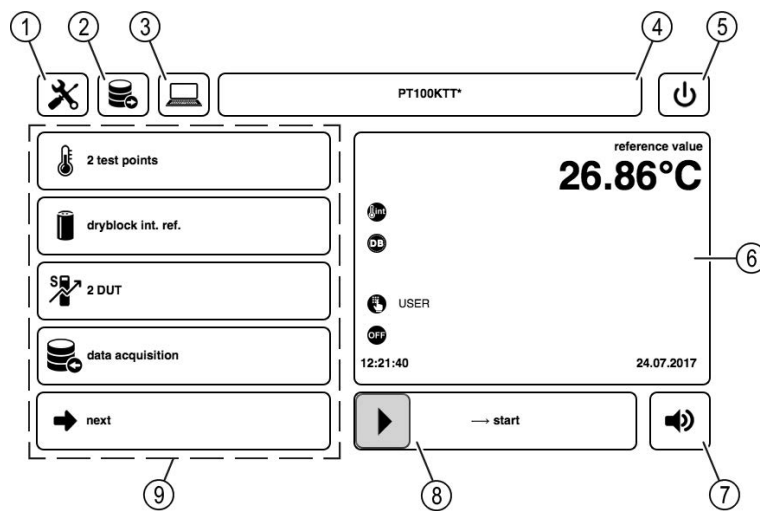

Figure 16: Main Window
In the main window, tap the “Test Task” area, see Figure 16 item 4.